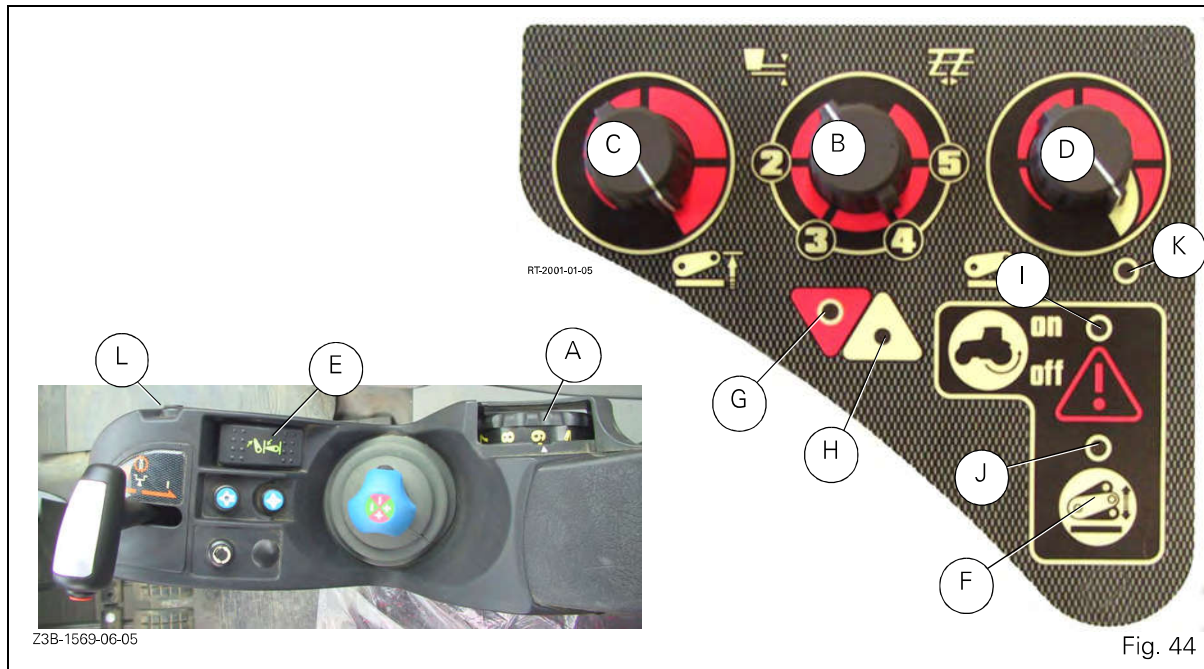

Fig. 44
- Select the minimum position with the knob B, Fig. 44.
- Move the knob (D) to position 1 (padlock).